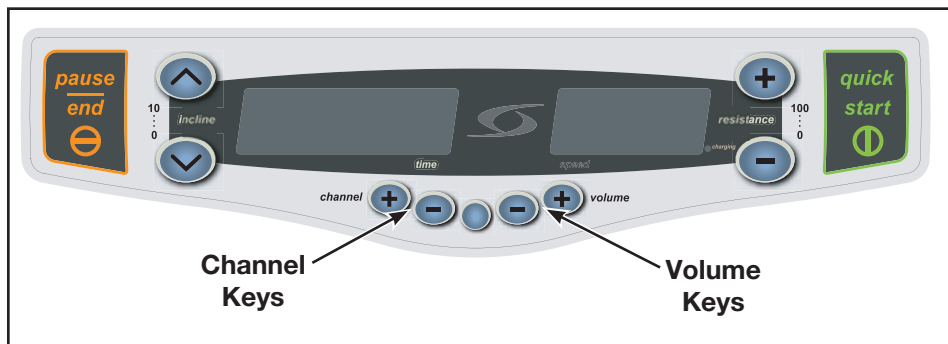

Figure 27
- A. Locate the AC/DC adapter (N) supplied with the monitor and plug into the power cable exiting the base of the Arc.
- B. Plug the power cord (O) into the AC/DC adapter (N). **NOTE:** Power cord (O) varies by country.
- B. Plug the power cord (O) into a wall outlet.
- D. Refer to Chapter 3 of the personal entertainment monitor manual (LT-20191) regarding use of the channel and volume keys located on the lower center of the Arc console. See Figure 27.